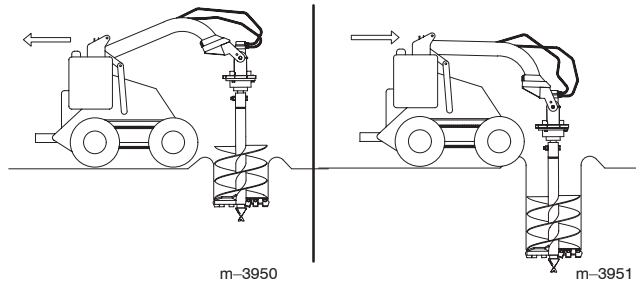

Figure 7
6. Lower the auger slowly as the soil is loosened. As you dig deeper, move the traction unit backward or forward as required to keep the auger vertical (Fig. 7).